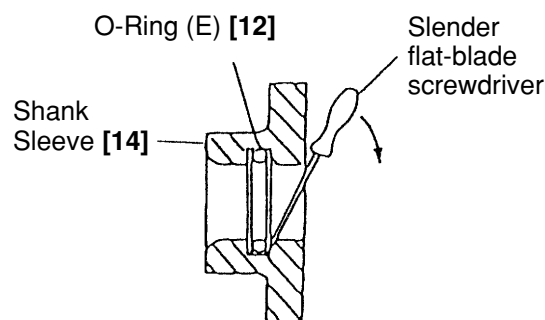

Fig. 14
- Removal of O-Ring (E) [11]
As O-Ring (E) [11] is installed in the inner portion of the Shank Sleeve [13], it may be difficult to remove. As illustrated in Fig. 14, pry O-Ring (E) upward gently with a slender flat-blade screwdriver, being very careful not to damage the surface of the O-ring.